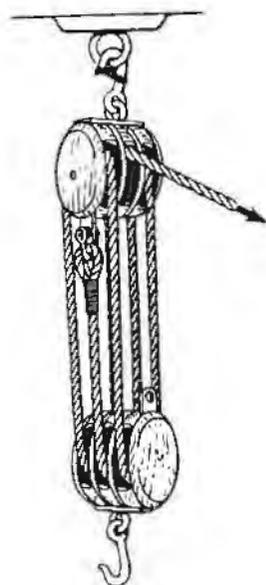

FIG. 8-16. Three-fold purchase
**Three-fold purchase** (fig. 8-16)